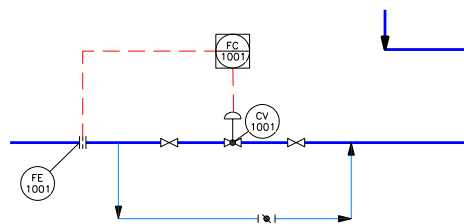

Figure 2-76 Position of another **Primary Accessible DCS** on the electric signal line of the feed line
13. Similarly, place another **Primary Accessible DCS** on the electric signal connected to the feed pipe, refer to Figure 2-76.